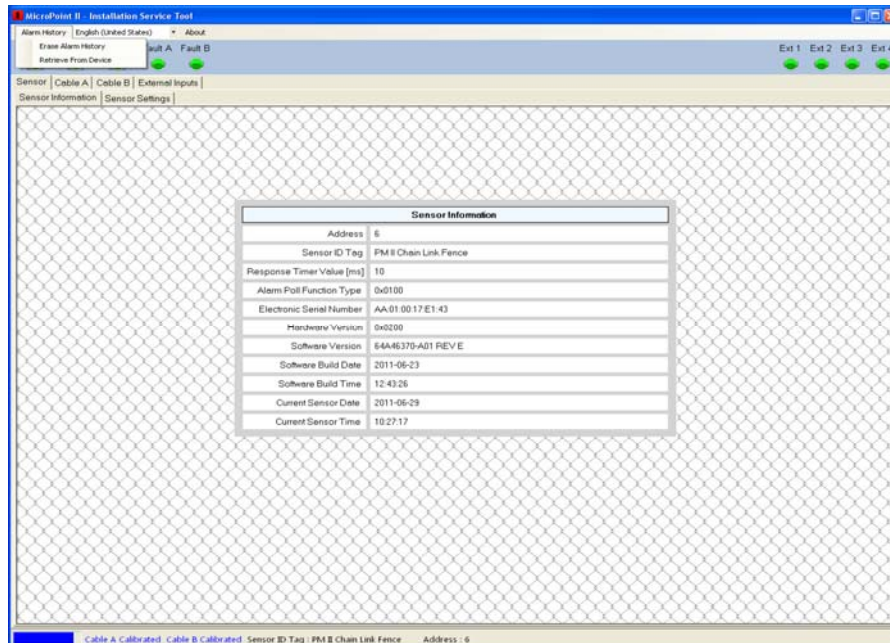

Figure 4.44 – Alarm History
Selecting the “Alarm History” menu will open two (2) options: Erase Alarm History and Retrieve from Device as shown in Figure 4.44.